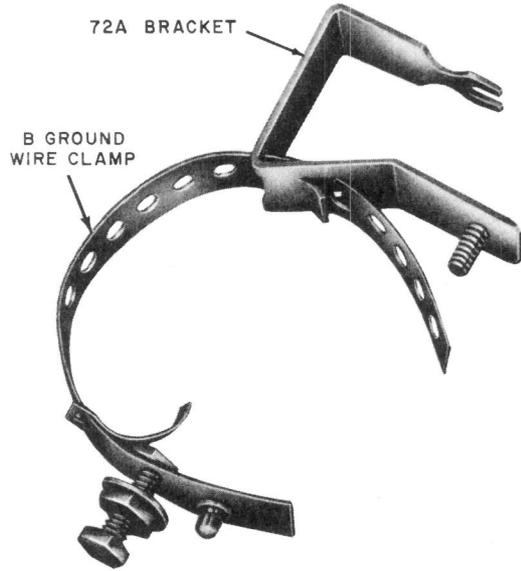

Fig. 26—B Station Ground Clamp Through Slots in 72A Bracket
- (1) Place a B station ground clamp through slots in the bracket (Fig. 26).
- (2) Attach the B station ground wire clamp to an acceptable metallic cold water pipe in the usual manner.
- (3) Remove the screw or bolts from the bracket and slide the protector in place, making sure the notched portion of the bracket is under the pronged washer of the ground terminal of the protector.
- (4) Place the mounting screw furnished with the 72A bracket through the bottom mounting hole of the 123A1A protector and into the threaded hole in the bracket.